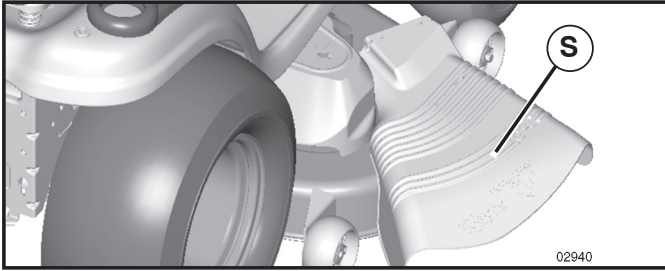

Fig. 10
CAUTION: Do not operate the mower without either the entire grass catcher, on mowers so equipped, or the deflector shield (S) in place. (See FIG. 10)